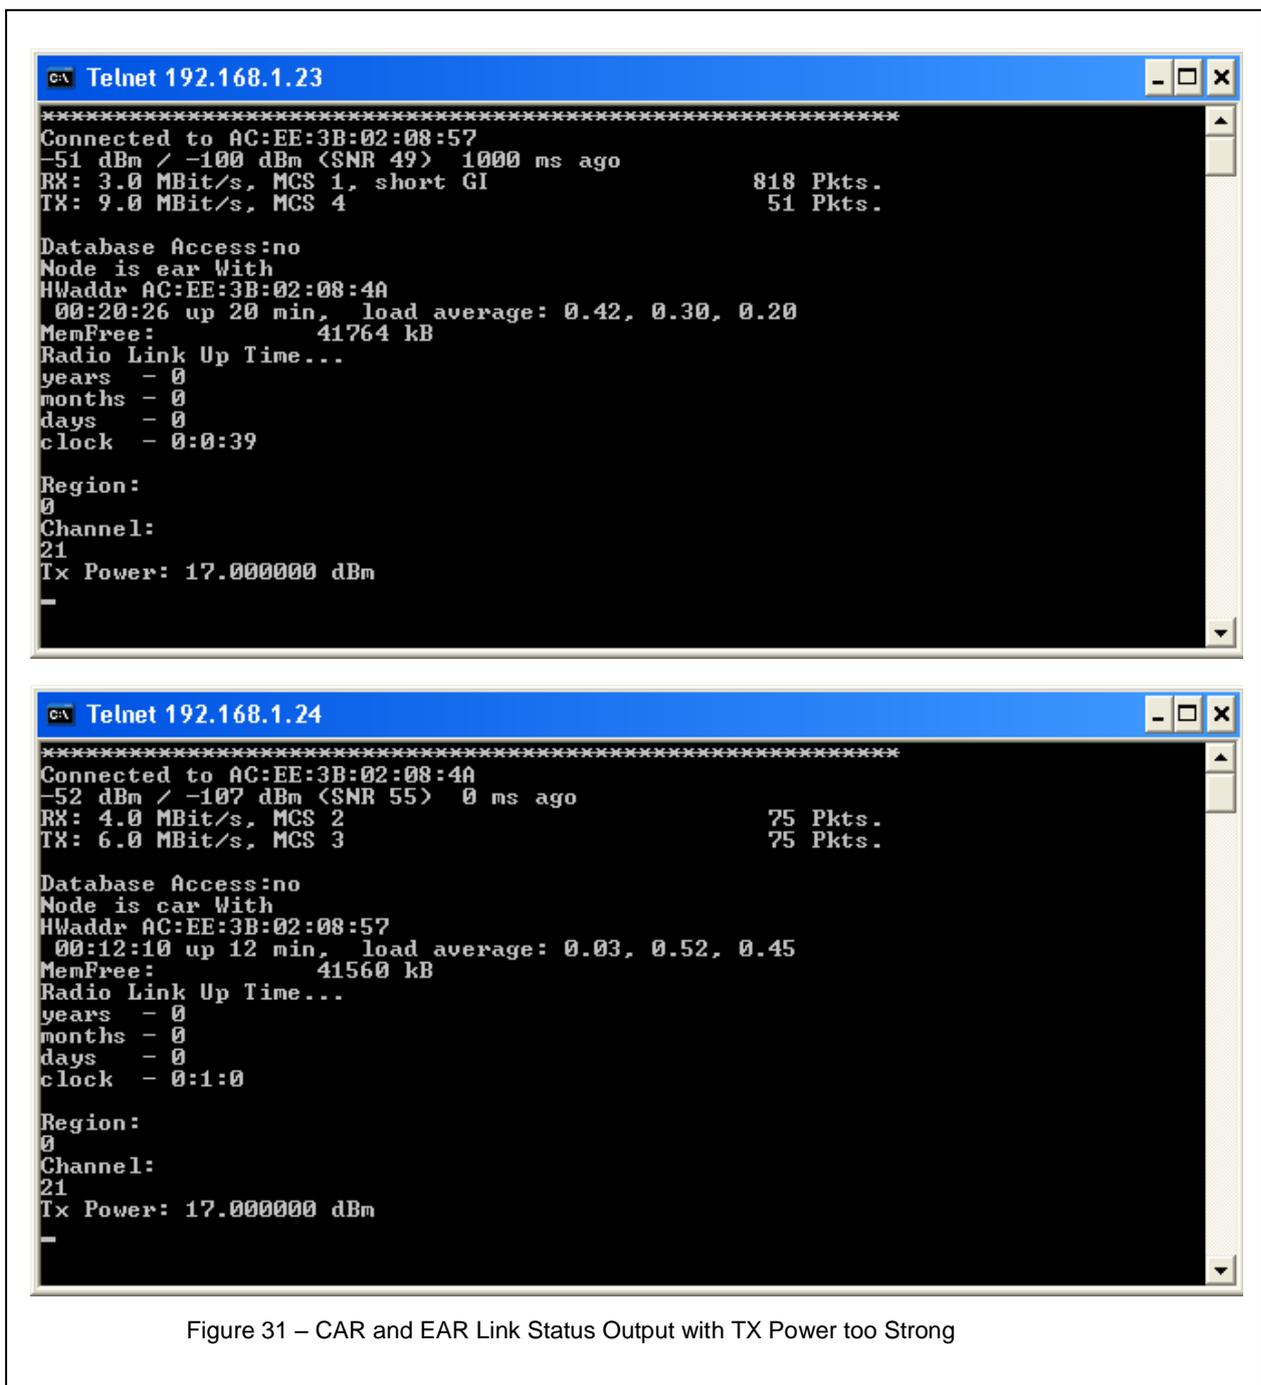

Figure 31 – CAR and EAR Link Status Output with TX Power too Strong
- 21.1 If the TX power of the BTS is too strong, the signal may saturate the receiver of the receiving node and link performance will be degraded. Figure 31 shows a link with too strong power. In this case, you'll need to lower down the TX Power to get RSSI below -60dbm and above -75 dbm.